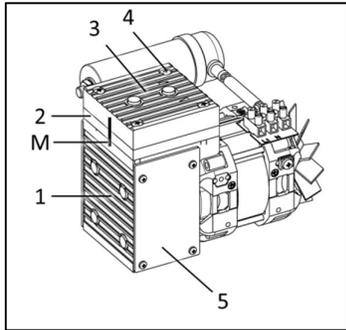

Fig. 29: One-headed pump (UN 828 KNI)
1. Mark the position of the head plate (3), intermediate plate (2) and housing (1) relative to each other by a drawing line with a felt-tip marker (M, see Fig. 29). This helps avoid incorrect assembly later.
2. Undo the 4 screws (4) in the head plate (3) and lift the head plate with the intermediate plate off the pump housing.